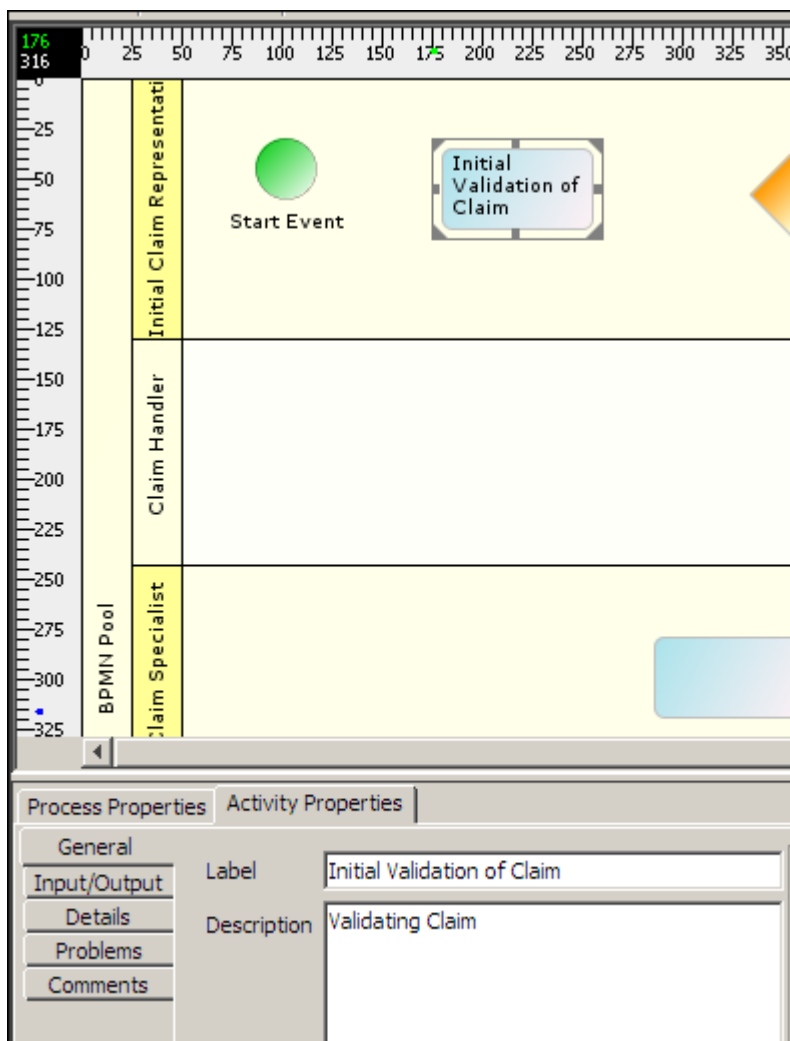

Figure 11: Displaying Name of Activity
1. When you click an element, the **General** tab appears as selected. Enter the name and description for the selected activity element in the **Label** and **Description** fields. Click the element again in the Graph Canvas to display the name in the element (see Figure 11).